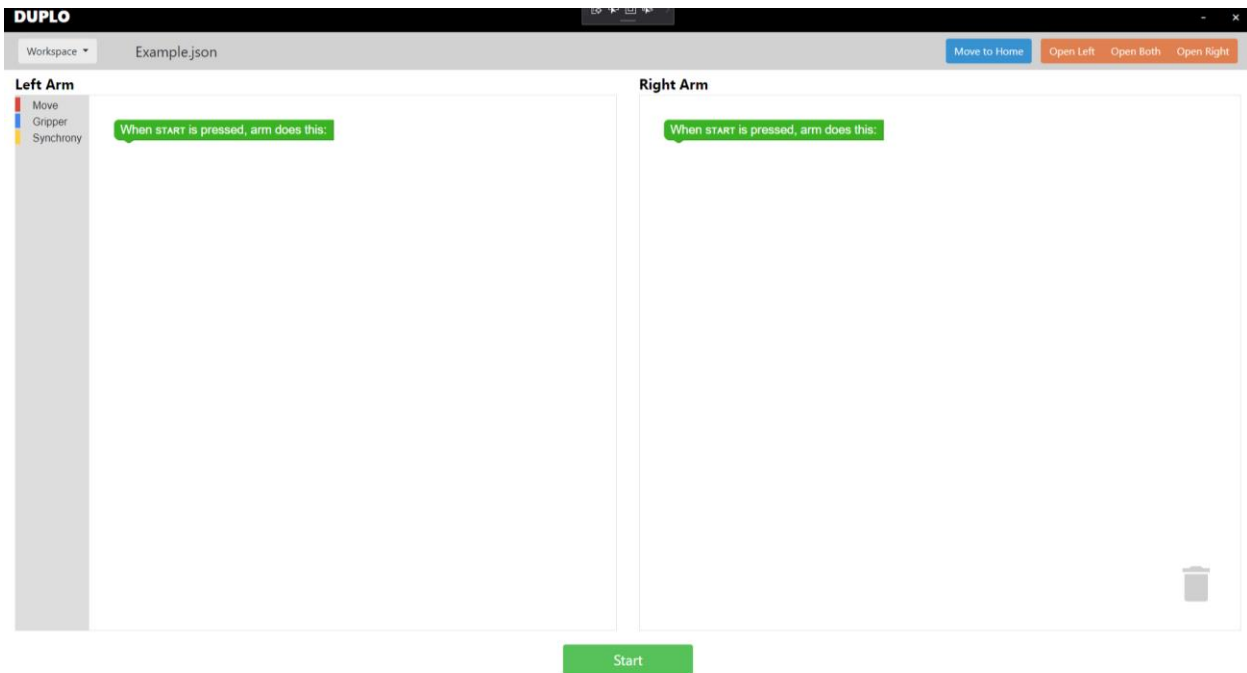

Figure 8. Duplo's main interface, two canvases one for each robot arm.
- **The Duplo Programming System:** Duplo was created to make programming of collaborative robots easier for end-users. The system has a single interface where all the programming work is done (See Figure 8). On this interface, we have implemented multiple movement types, gripper controls, speed settings, and buttons to execute the program and manipulate the robots. The interface has two canvases where users can implement robot actions by attaching blocks in desired orientations.
- **RobotStudio Online Yumi (RSOY):** RobotStudio Online Yumi was created by ABB as a prototype programming alternative for YuMi. The prototype has multiple interfaces for users to program in. In the main interface (Figure 8), users can perform the majority of the functionalities that come with RobotStudio Online Yumi, including teaching positions and opening grippers. There are also separate interfaces to setup the code for each arm, and another interface to execute the code.